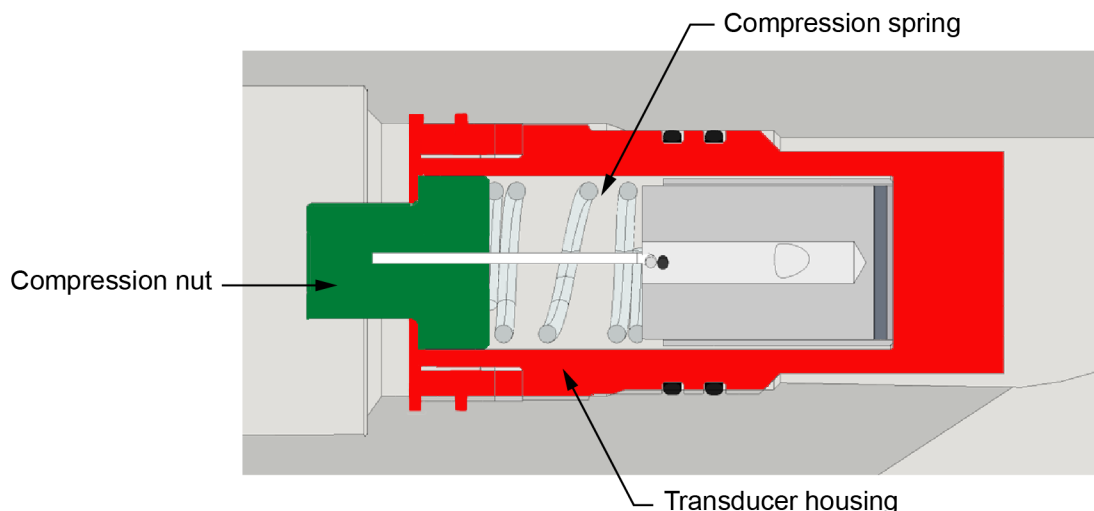

Figure 6.10—Transducer housing detail
3. Remove the transducer internals using a pass-through socket head ($\frac{1}{2}$ -in. socket). Use a press and twist motion to disengage the compression nut (Figure 6.10, page 49).
Never tamper with the transducer housing (shown in Figure 6-10). The housing is pressurized and contains two locking rings to keep the housing in place. Only Sensia technicians may remove these pressure-containing components.